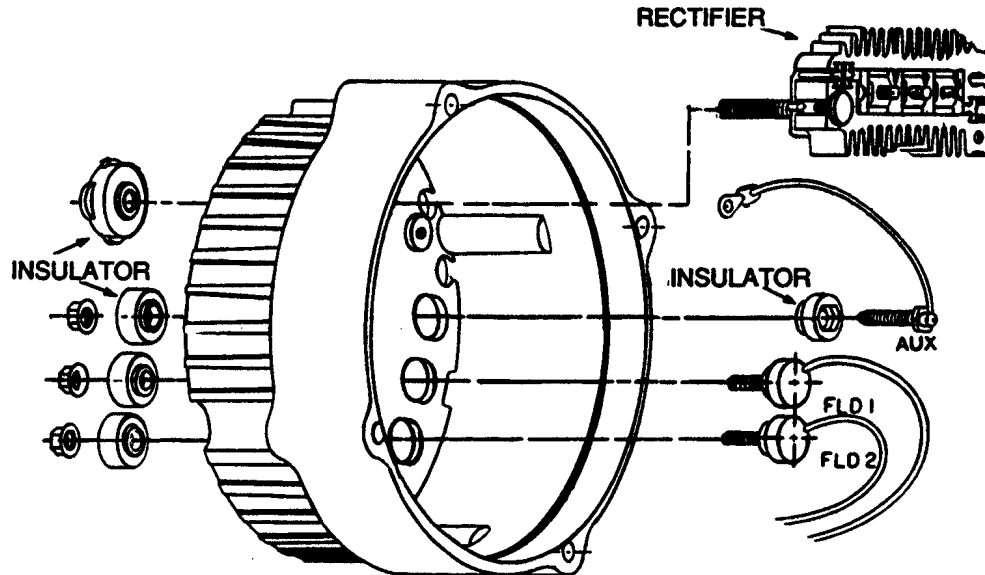

FIGURE 6
2. Coat surface of brush-holder which contacts housing, with silicone adhesive/sealant. Install the pre-assembled brush-holder assembly with the brush retaining pin* protruding through the small hole in the casting. Apply "Loctite #242" to #8 brush-holder attaching screws (22) and torque to 15-20 in.-lbs. Do not overtorque screws or cracked brush-holder may result.
3. Install the field terminal studs (14) with the insulator washers (33) outside the housing, making certain the stud is properly seated into the socket of the insulating washer with the brush leads routed as shown. (See Figures 6 & 7.)
1. Install the capacitor (19) into the housing if it was removed. Apply "Loctite #242" to the #8 attaching screw (15) and torque to 15-20 inch pounds.
2. Install the "AUX" terminal stud (17) and insulator (34) inside the housing with the lead routed as shown. (See Figures 6 & 7.)